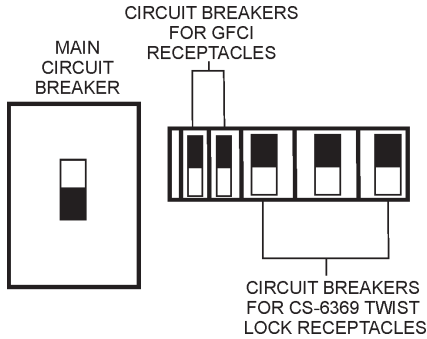

Figure 69. Main, Aux. and GFCI Circuit Breakers (OFF)
1. Place both the **MAIN, GFCI** and **LOAD** circuit breakers (Figure 69) to the "OFF position".